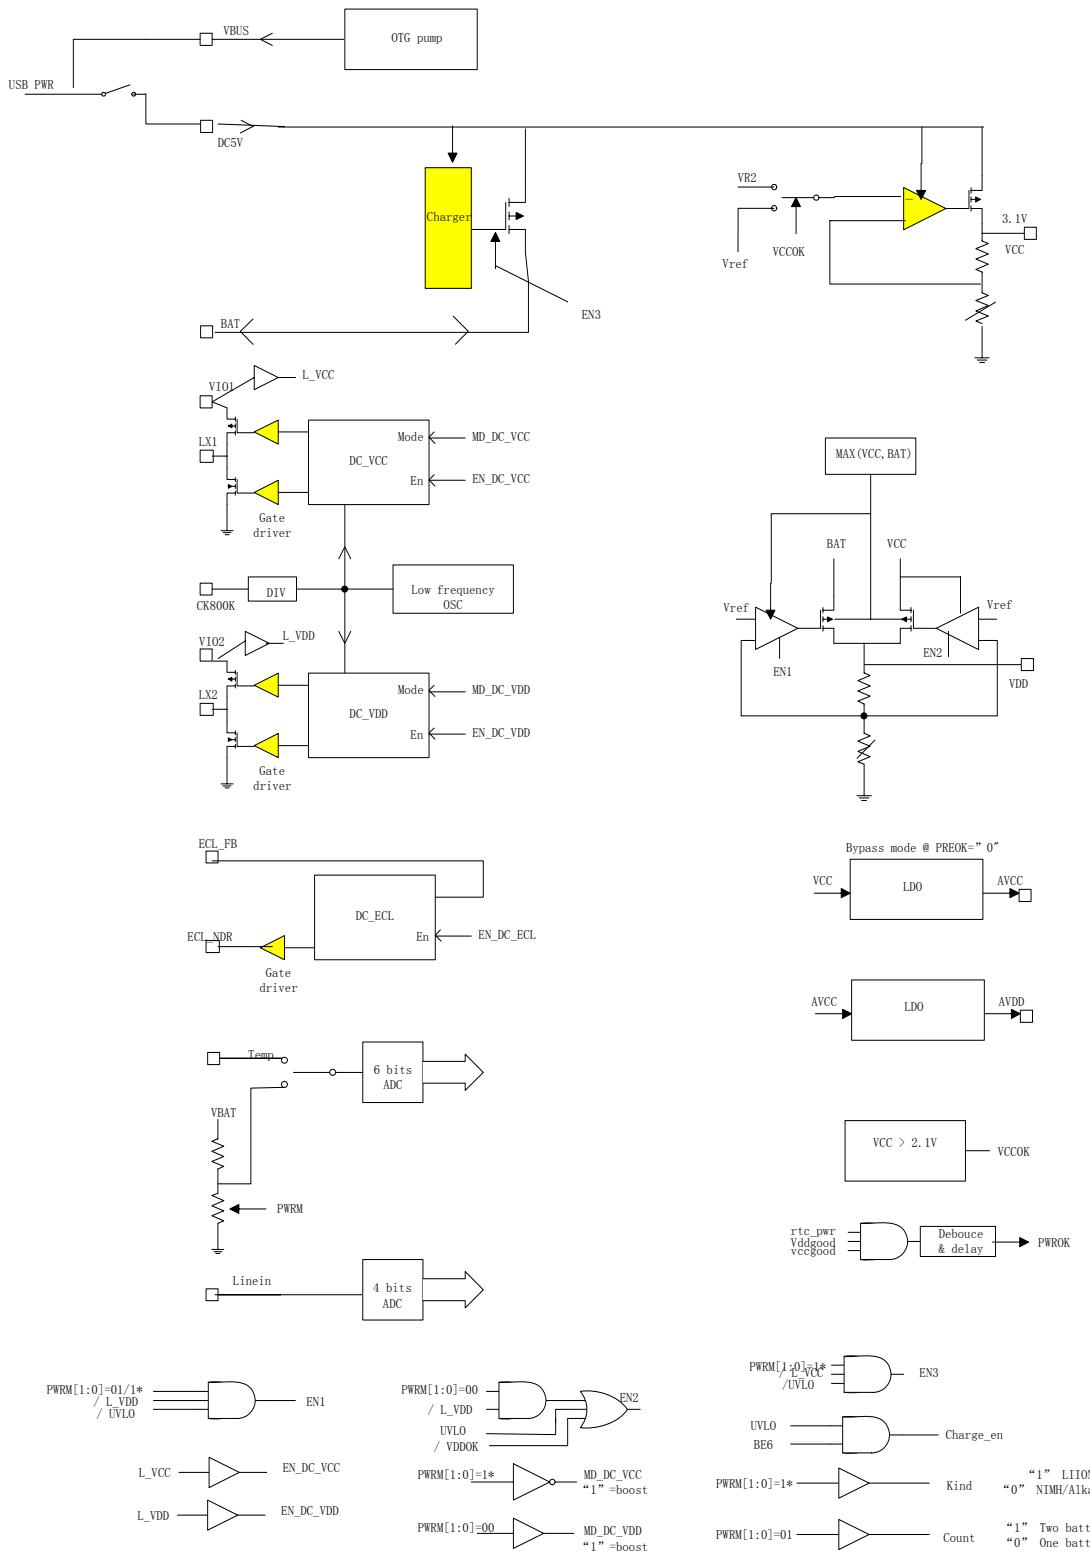

Figure 9: DC/DC Converters & Regulator-Block Map
On this chip two performance counters are configurable to count one or two MIPS 4KEc core events, which are fetched from Performance Monitoring (PM) interface or EC bus interface. Therefore the relative frequency of different events can be compared to a large sample set, for example, the ratio of D-cache hits to misses, or the ratio of micro TLB misses to instructions completed. Figure 9 shows the performance counters block diagram.